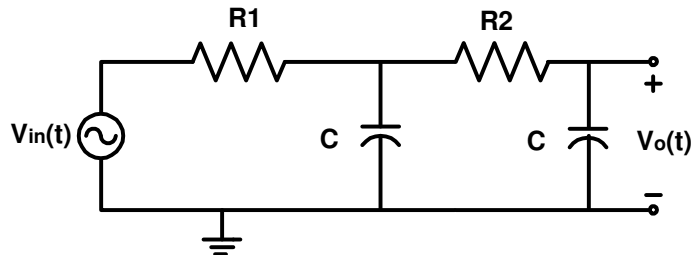

Fig. 3. Second order low pass filter
5. For the circuit shown in Fig. 3, derive the transfer function for v_o/v_{in} in terms of R_i , C_i and $j\omega$, and find the expressions for the magnitude and phase responses. Express your results in the form
- Design (find component values) a passive second-order low pass filter such as the one shown in Fig. 3. Determine R_1 and R_2 for $C = 47\text{nF}$ such that the first pole is at 3500 Hz and the second pole is at 35 Hz. You may assume $R_2 \gg 2R_1$ to solve for R_1 and R_2 . You **must use** PSpice to verify your design.
1. Build the circuit shown in Fig. 3 with R and C you found in the prelab. Apply a 6Vpp sinusoid from the function generator to the input.